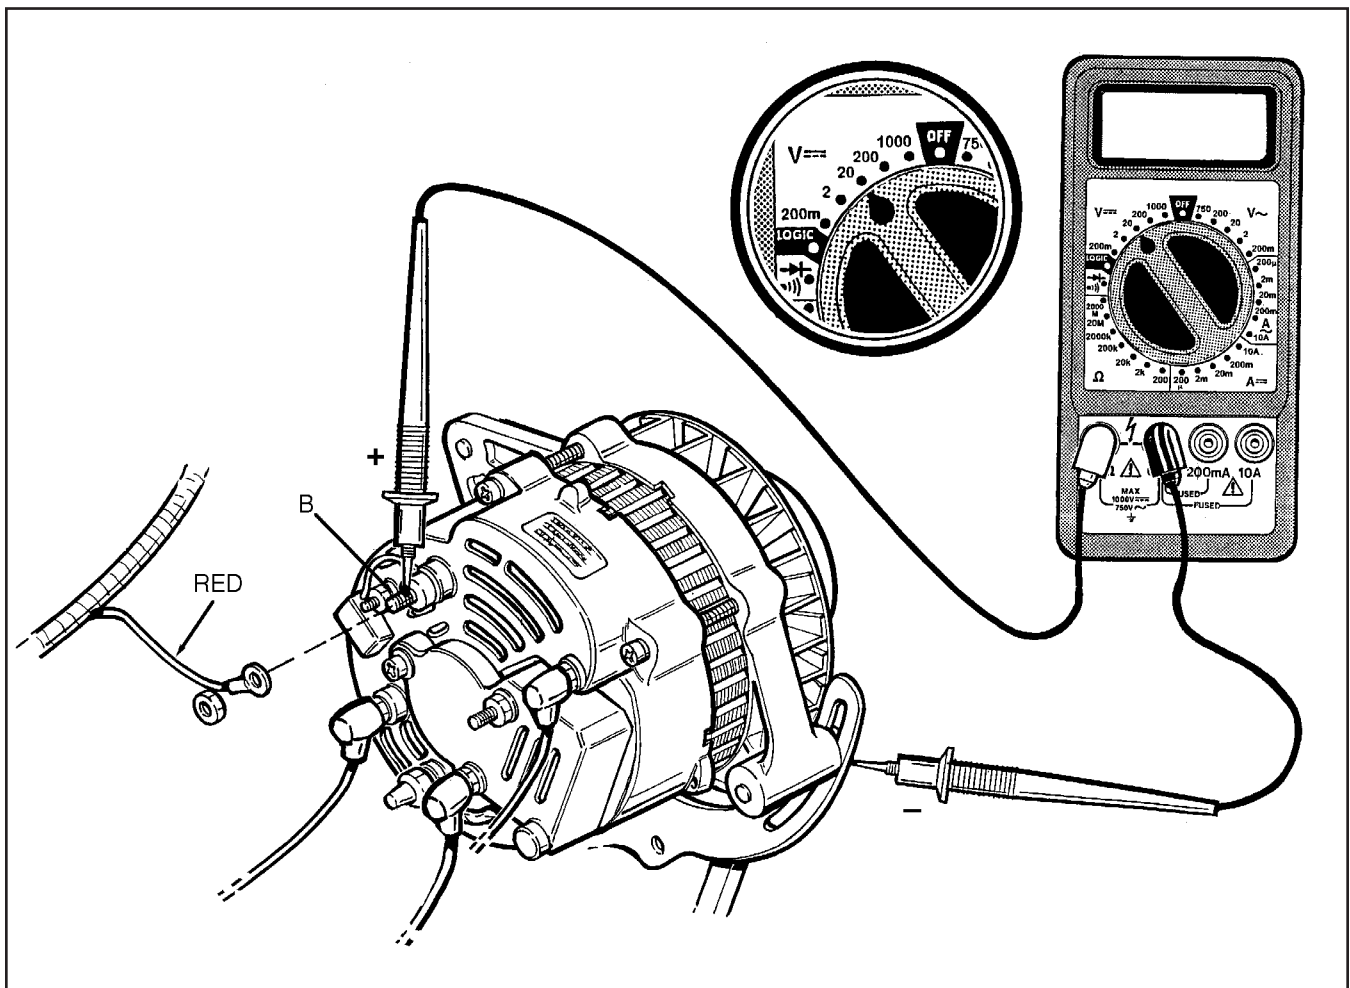

Figure 10E-1. Output Current Test
OUTPUT CURRENT TEST (See Figure 10E-1)
5. Stop engine and replace battery with a known good battery. Reconnect multimeter test leads as shown in Figure 10E-1.
VOLTAGE TEST (See Figure 10E-1)